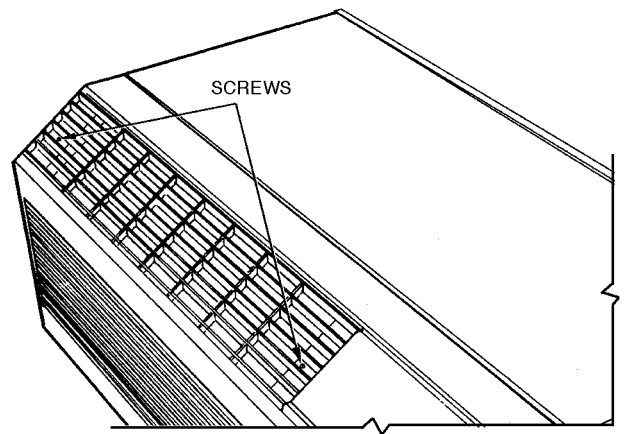

FIGURE 14 — REMOVING AIR DISCHARGE GRILLE
1. Remove the 2 screws on each end of the air discharge grille as shown in Figure 14.